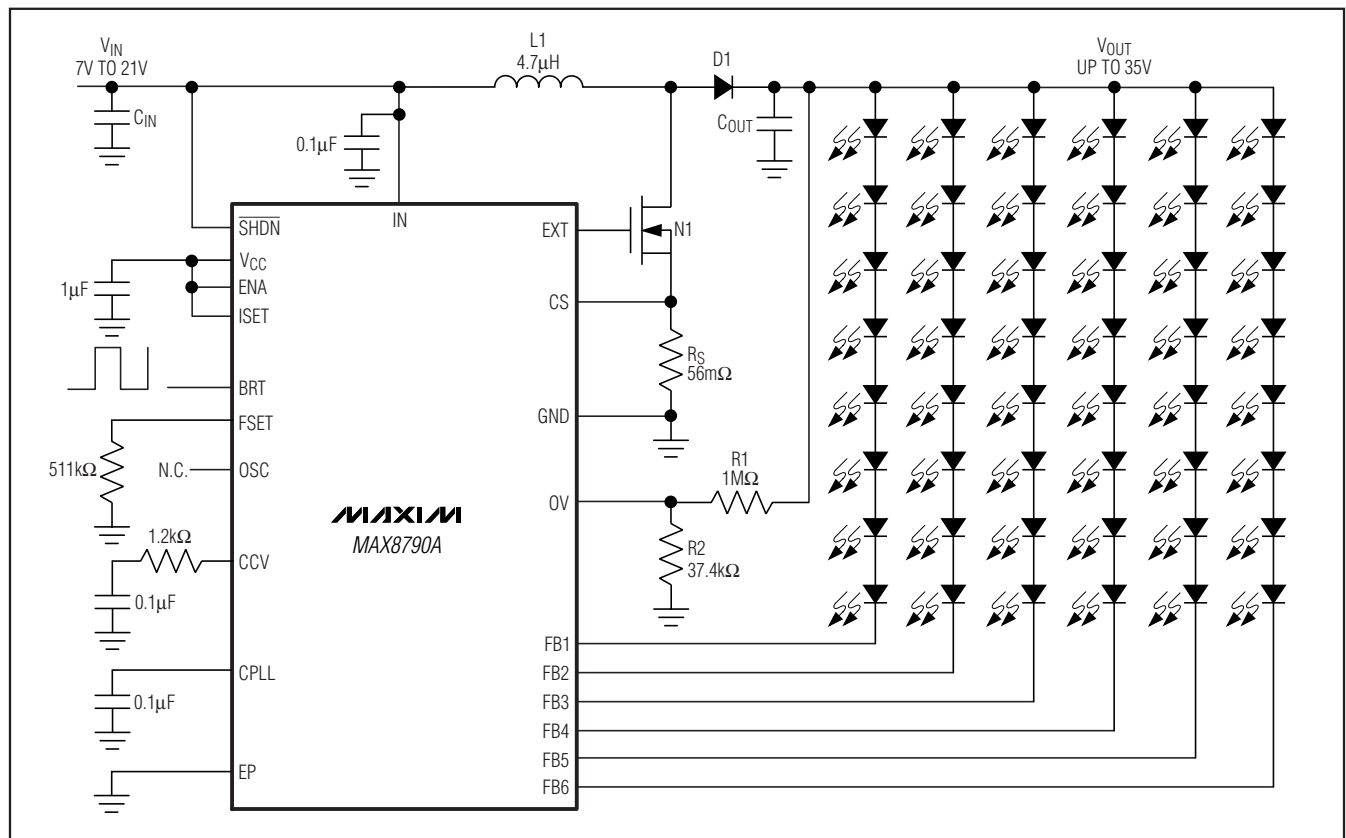

Figure 1. Typical Operating Circuit
To protect the step-up converter when the load is open, or the output voltage becomes excessive for any reason, the MAX8790A features a dedicated overvoltage feedback input (OV). The OV pin is connected to the center tap of a resistive voltage-divider from the high-voltage output (see Figure 1). When the MAX8790A is powered up, if none of the LED strings on FB1–FB6 are connected to the step-up converter output, the step-up converter regulates the output voltage to $V_{\text{OUT}} = 1.23\text{V}(1 + R1 / R2)$. When V_{OV} exceeds 1.23V, a comparator turns off N1. The step-up converter switch is reenabled after the output voltage drops below the protection threshold.